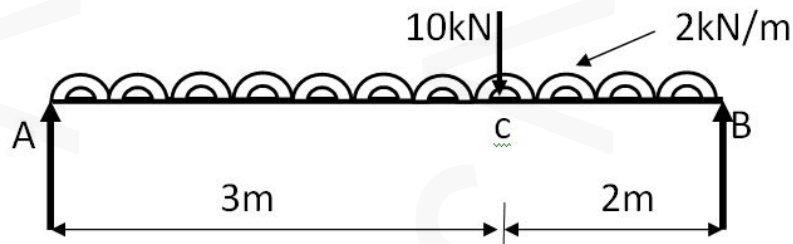

Figure 6
- 17 A simply supported beam AB of 5m span is carrying a uniformly distributed load of 20kN/m. The beam is made up of rectangular cross section of dimensions 300mm x 450 mm. (14)
- 18.a Derive the expression for strain energy due to bending deformation. (4)
- b For the simply supported beam shown in fig:6, calculate the total elastic strain energy due to bending. (10)